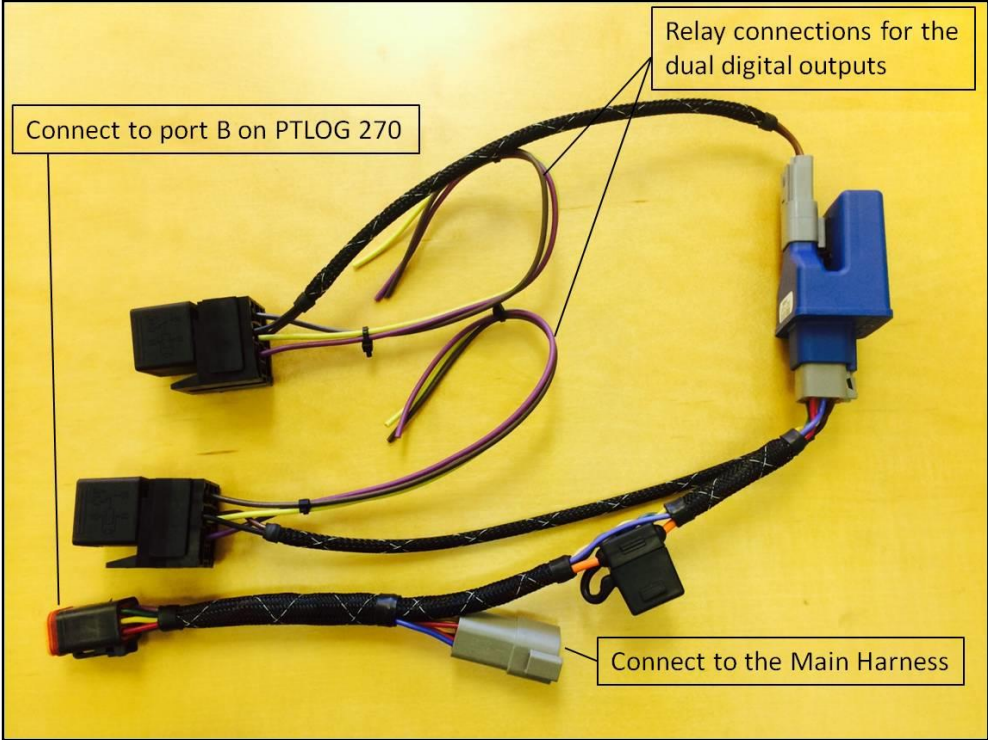

Figure 4: PTLOG™ 270 Harness Connections
Step 3: Connect the Wiring (See Schematic and Figure 4 below)
- Connect the **GRAY** Connector to **Port C** on the back of Screen/Controller unit (1)
- Connect the **BLACK** Connector from the dual digital output kit to **Port B** on the back of Screen/Controller unit (1)
- Connect the **BLACK** Connector from the main harness to **GRAY** port in the dual digital output kit (14)
- Connect to pressure sensor (3)
- Connect to temperature sensors (4)
- Mount and connect the temperature sensor power supply (5)
- Connect Blue (-) and Fused (7) Red (+) to Main Power Input